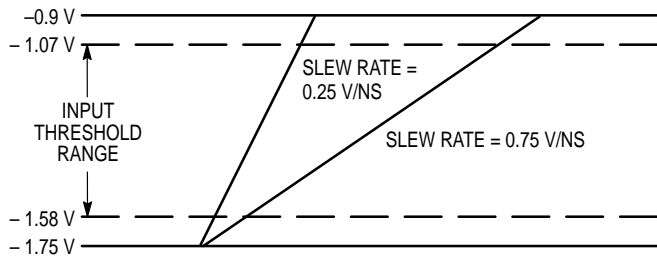

Figure 4. ECL Dispersion Test Input Conditions
- Refer to Figure 4 and note that the input is at 850 mV ECL levels with the input threshold range between the 20% and 80% points. The delay is measured from the crosspoint of the input signal and the threshold value to the crosspoint of the Q and Q output signals.
Figure 4 and Figure 5 define a range of input conditions which incorporate varying input slew rates and input voltage overdrive. For input parameters that adhere to these constraints the propagation delay can be described as: